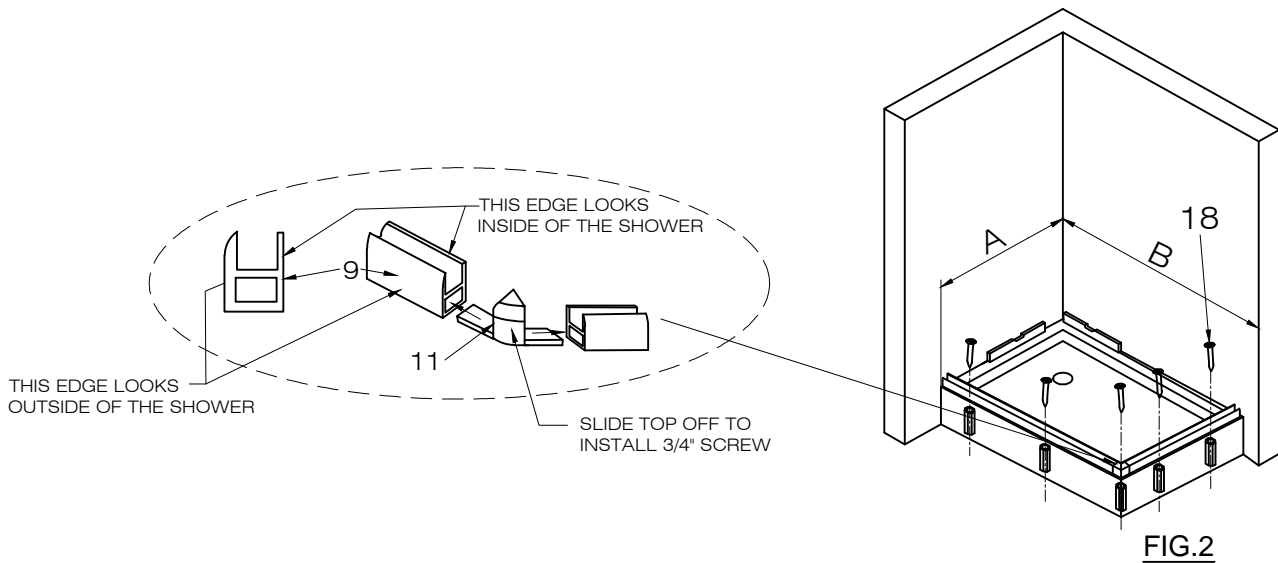

FIG.2
1. Slide the corner joint onto the bottom rail. [SEE FIG.2]